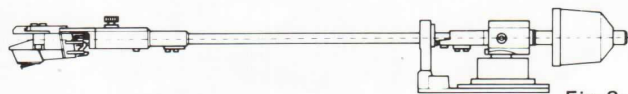

Fig. 8
- Carefully release the tone arm from its rest and balance the tone arm horizontally by turning the counter weight clockwise or counter-clockwise (Fig. 8).